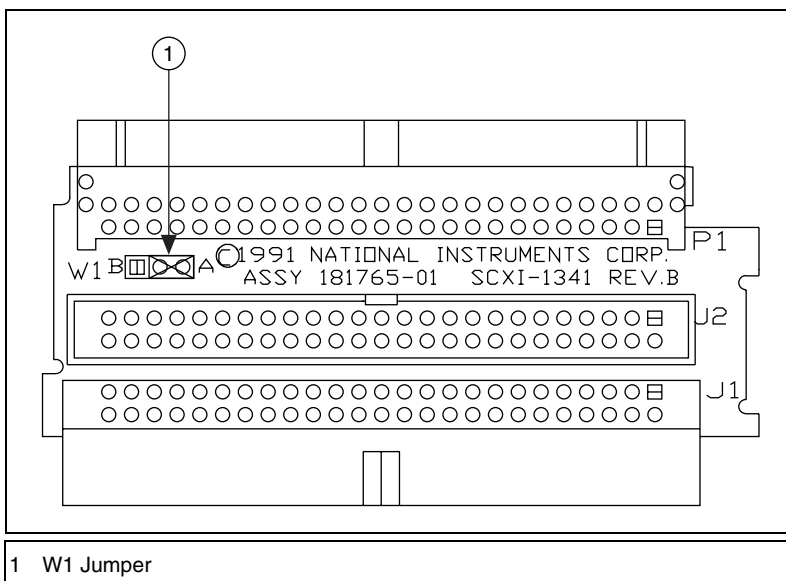

Figure 2. Jumper Position Diagram
4. Set the SCXI-1354 jumper W1 shown in Figure 2. Table 1 shows the two possible jumper positions. In position A, the factory-default position, jumper W1 connects pin 43 of the DAQCard-1200 to module pin 46. Position B breaks this connection.